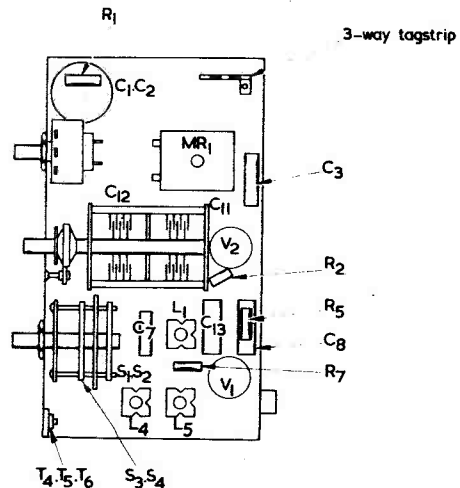

Fig. 4. Below-chassis layout
P.V.C. insulated wire is used for connecting up and it is advisable to start with the power supply. The mains lead is taken through a ¼in grommet at the rear of the chassis, via the switch on R6, to the 3-way tagstrip shown in Fig. 4, the mains earth being taken to the anchoring tag. The